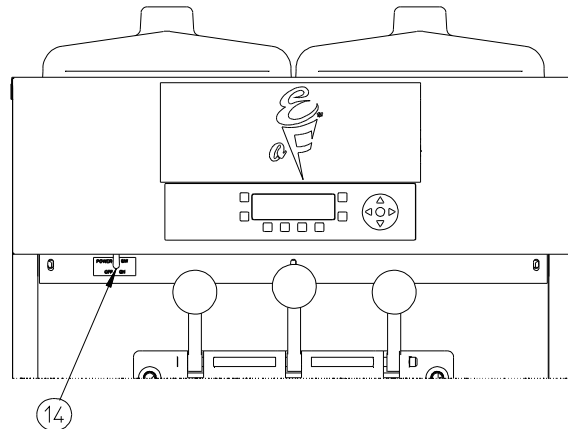

Figure 6-3
6.14 Power Switch 14 See Figure 6-3